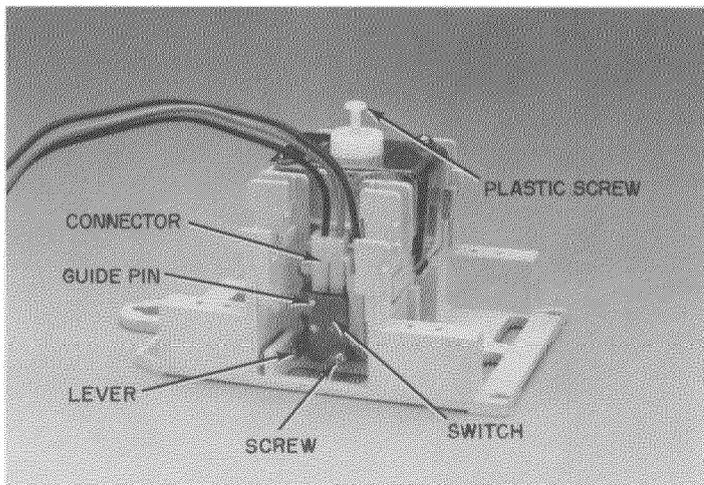

Figure 1.
Up to two auxiliary contacts may be added to the left side of the contactor. See Figure 1.
3. Insert the lever from the kit into the left side of the contactor as shown in Figure 1. The end of the cylindrical section should fit flush into the contactor. Push the cam/core assembly in until it latches in the "closed" position. Remove the operating screw.